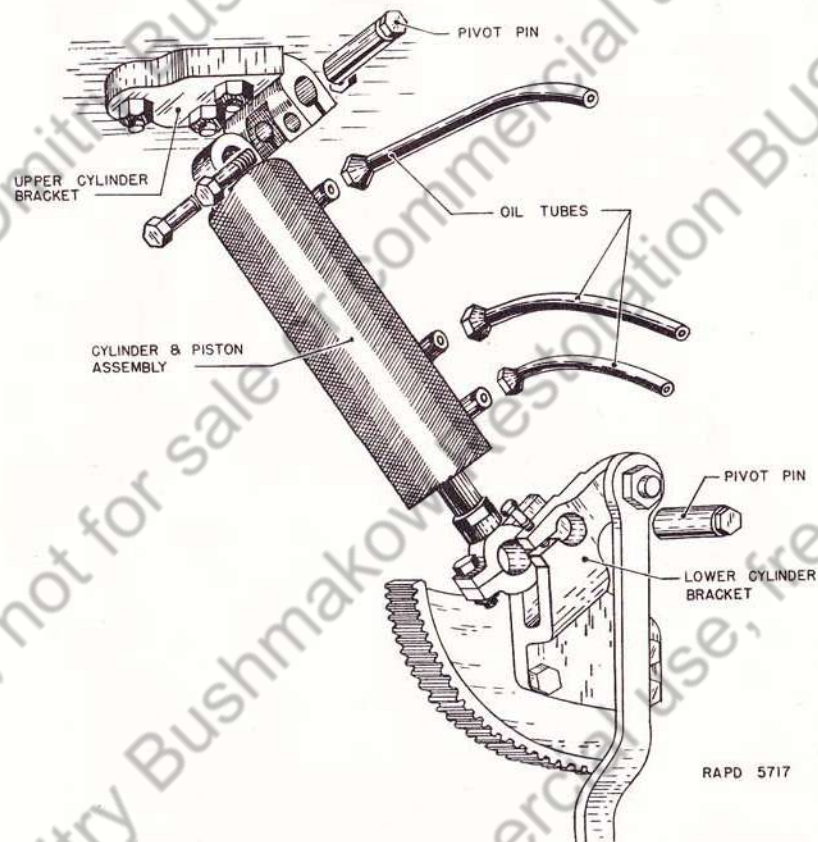
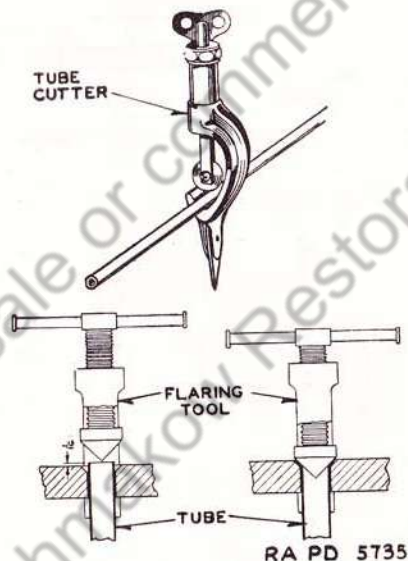

FIGURE 79.—Piston and cylinder.
FIGURE 81.—Tube flaring.
- b. Piston and cylinder.*—(1) Throw the master toggle switch to the "off" position, disconnecting the power supply to the stabilizer.
- (2) Disconnect and remove the oil lines from the cylinder assembly and plug with flareplugs.
- (3) Loosen the clamping bolts (fig. 79) and remove the cylinder pivot pin at both ends of the assembly.
- (4) Remove the piston and cylinder assembly.
- (5) Replace in the reverse order of removal.
- (6) Check to see that the piston and cylinder assembly is functioning freely without binding.
*c. Repair and replacement of defective oil lines.*—(1) Disconnect the defective oil line and catch any oil drainage from the affected part of the system in a container.
- (2) Reflare the tubing using a standard flaring tool (fig. 81). The tubing should be cut as close as possible to the flare with a tubing cutter and *not* with a hacksaw.
- (3) Reconnect the flarenut to its proper connection.
- (4) Replace completely any damaged oil lines.
- (5) If connecting elbows cannot be tightened sufficiently to stop leakage, remove and tin threads with soft solder.
- (6) Recharge the system with oil as outlined under paragraph 125.
- d. Replacing shielded cable and wires.*—(1) If the shielded cable connecting any part of the stabilizers becomes frayed or broken it should be replaced.